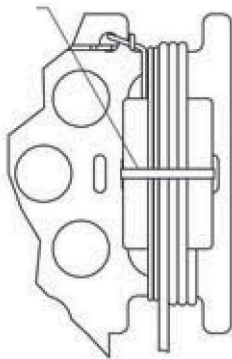

Figure 4-11. Strap the brick and cord in place using a zip tie or hook-and-loop tie (not included).
Step 5: Wrap the remaining length of power cord around the power brick (see Figure 4-11).
Step 7: Hold the brick and cords in place by strapping them down using a zip tie or a hook-and-loop tie (see Figure 4-11, page 16).